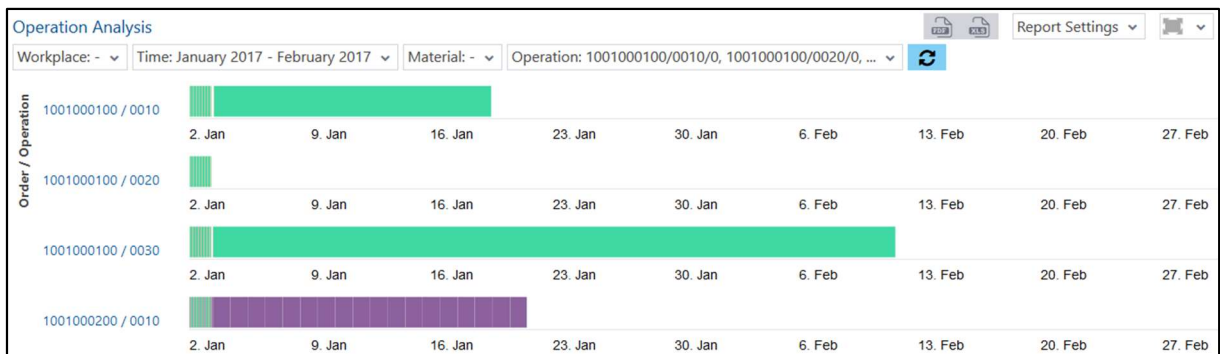

Fig. 132: Operation Analysis as a timeline chart
- Operation Analysis as a timeline chart (Fig. 132):